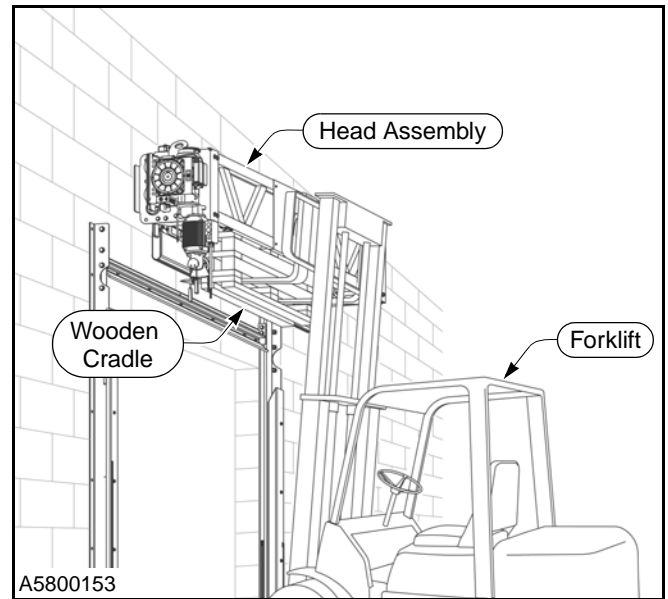

Figure 17
- b. Secure the head assembly to a forklift or other suitable lifting device. (See Figure 17.)